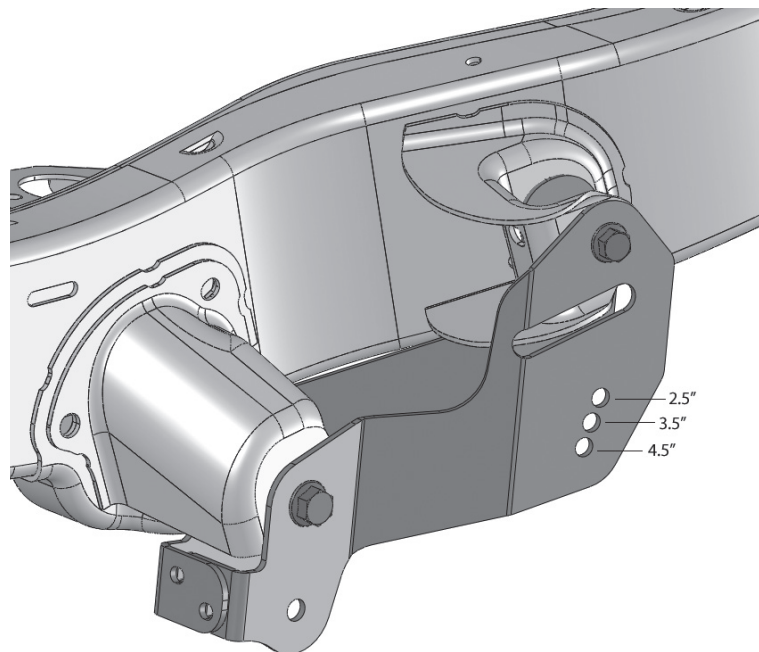

Fig. 3
6. NOTE: There are three relocation holes in the brackets for mounting the upper control arms. For the AEV 2.5" Suspension Kit use the upper hole location, the AEV 3.5" Suspension Kit use the middle hole location, and for the AEV 4.5" Suspension Kit use the bottom hole as shown (Figure 3.)
4. If your measurement is from 5 1/2 to 6 1/2 inches you'll install the upper control arm in the upper hole location (2.5") as illustrated in Figure 3.
5. If your measurement is from 6 1/2 to 8 inches you'll install the upper control arm in the middle hole location (3.5") as illustrated in Figure 3.
6. If your measurement is from 8 to 9 inches you'll install the upper control arm in the lower hole location (4.5") as illustrated in Figure 3.